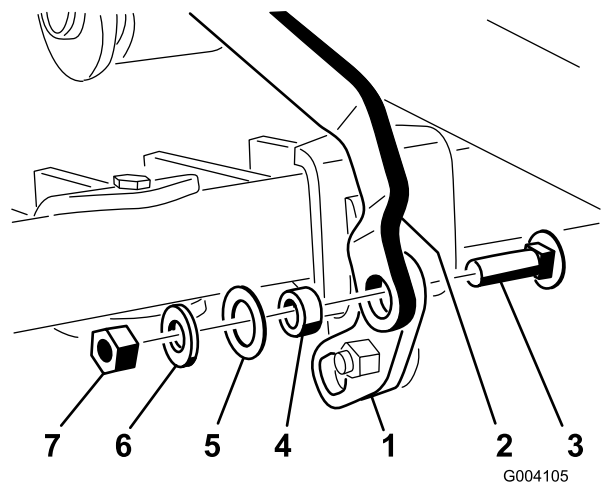

Figure 16
5. With the lift pedal assembly knee bent upwards, install the square hole on the pivot tab to the end of the toolbar link using a carriage bolt (3/8 x 1-1/4 inches), a spacer, a washer (1 inch), a washer (13/16 inch), and a locknut (3/8 inch) as shown in Figure 16.